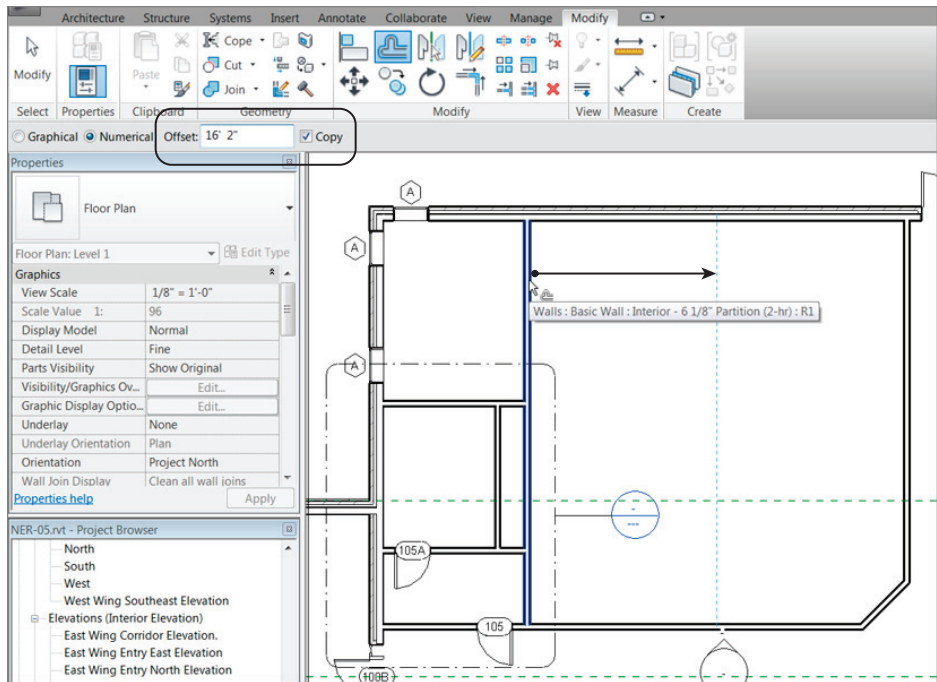

FIGURE 4.48: Choosing your options, and picking the wall to be offset
1. Zoom in on the west part of the east wing. This is the area where the restrooms are located (see Figure 4.48). The objective is to offset the vertical wall that is to the right of the restrooms, to the middle of the open space.
2. On the Modify panel of the Modify tab, click the Offset button, as shown in Figure 4.48.
6. Hover your cursor over the wall to the right of the lavatory, as shown in Figure 4.48. A dashed alignment line appears to the right of the wall.